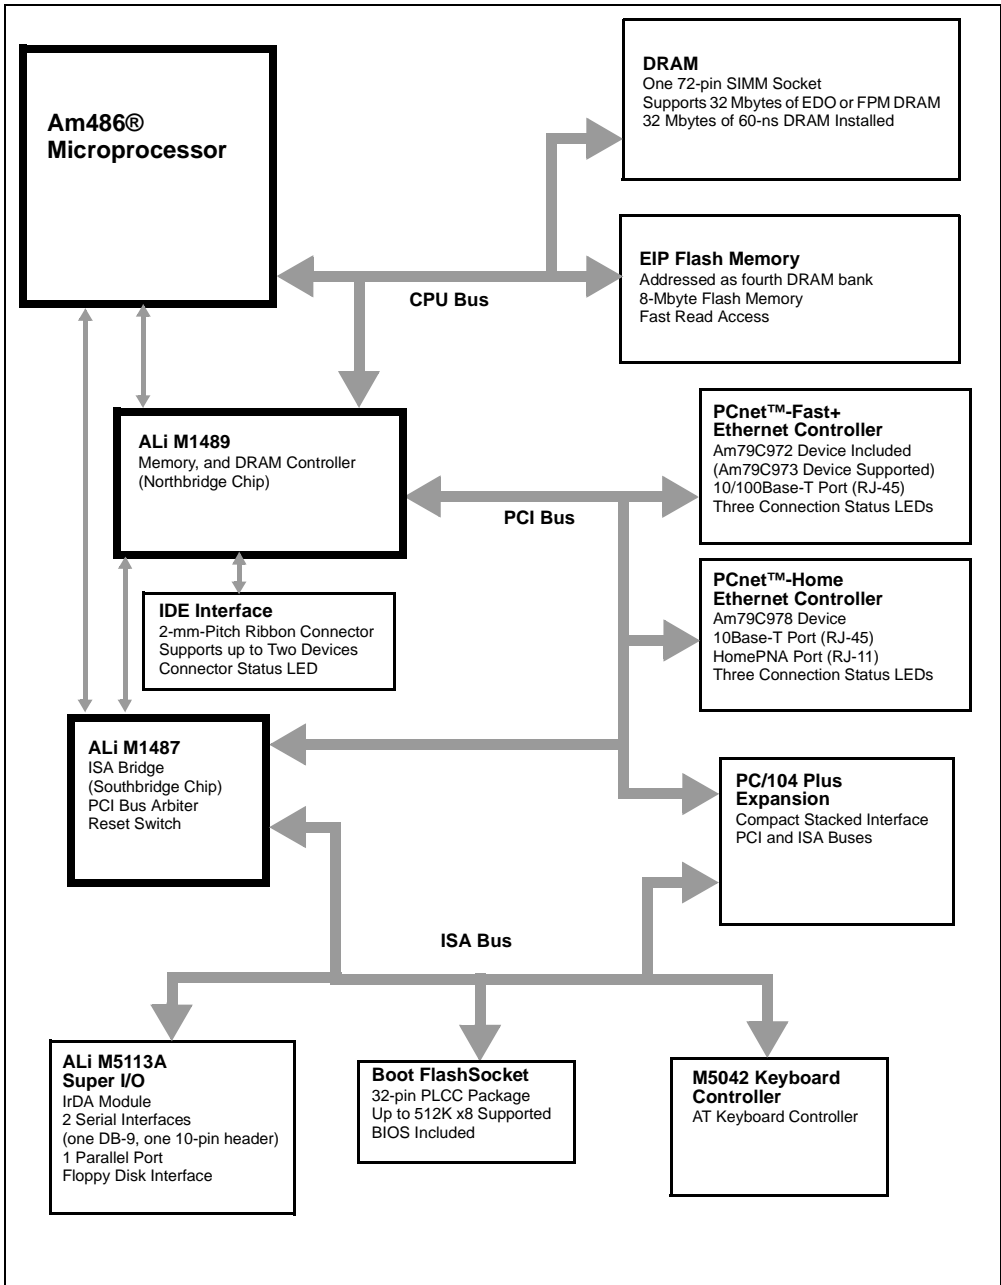

Figure 2-1. Board Overview (Same as Figure 0-1)
- Figure 2-1 on page 2-3 provides an overview of the board's features.